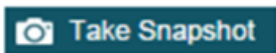

Figure 5. Dumping Binary File – Take a New Snapshot
3. Choose an existing snapshot from the options available (if any) or take a new snapshot by clicking the Take Snapshot button (shown in Figure 5).